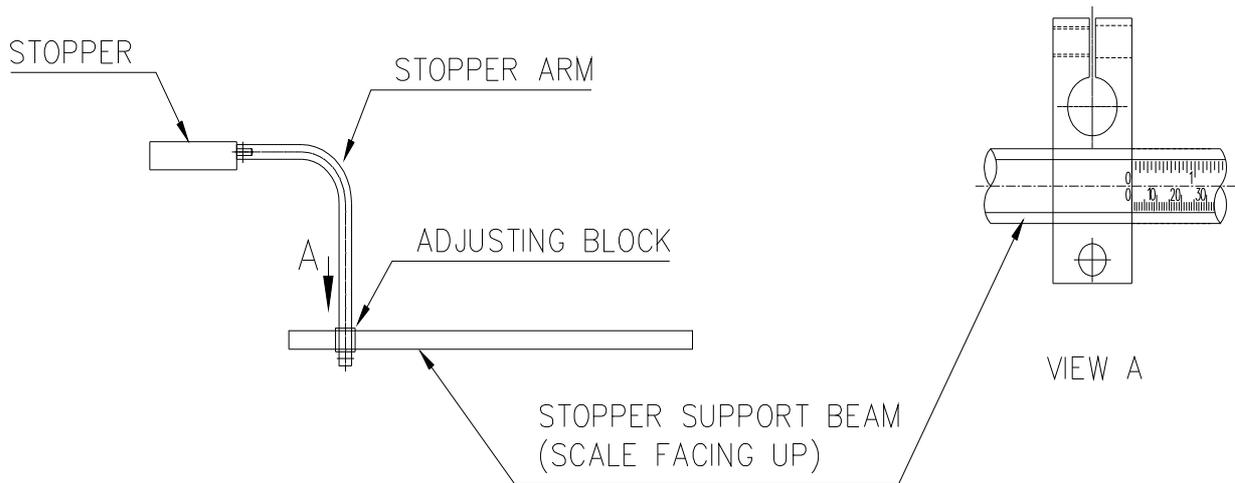

FIGURE 1
1. Mount the stopper arm at the “0” point on the stopper support beam as illustrated on following figure1.